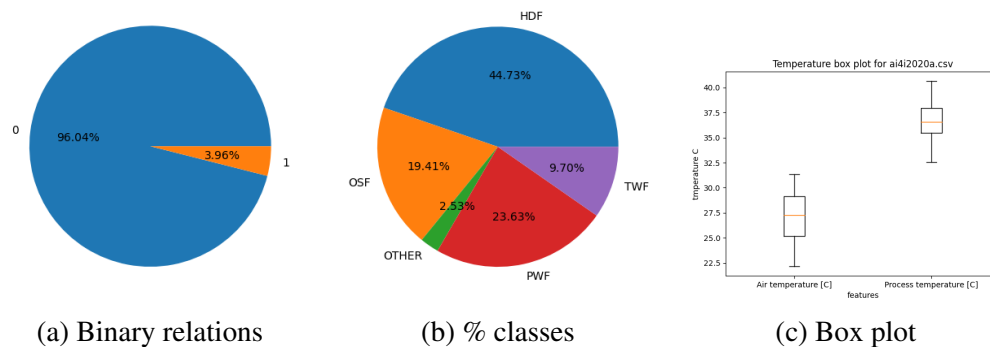

Figure 1: Exploring results
- Plot a pie chart for binary relation failure/not (Fig. 1(a))
- Plot a pie chart for different failure classes (Fig. 1(b))
- Draw the box plot of to temperature features for non null values (Fig. 1(c)).